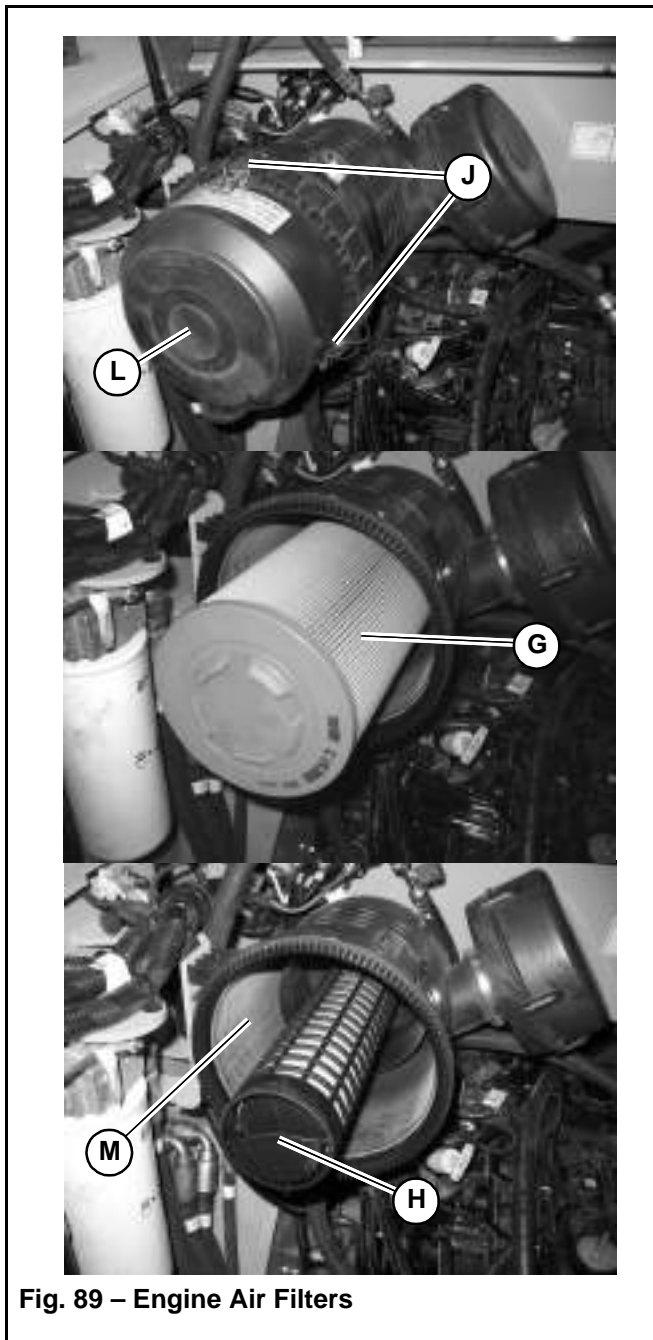

Fig. 89 – Engine Air Filters
The air cleaner consists of an outer (primary) filter element (G, Fig. 89), an inner (secondary) filter element (H) and an optional pre-cleaner.
3. Unlatch clamp (J, Fig. 89) on the air cleaner housing and remove the air filter cover (L).
- Carefully remove the outer filter element (G, Fig. 89). Do not remove inner filter element (H) unless it will be replaced. If inner filter element (H) will not be replaced, skip to step 10.
- Clean dirt from inside the air filter housing (M).